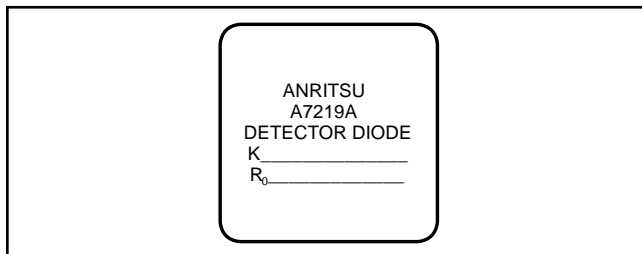

Figure 11. Replacement Diode Module Container Label
7. Obtain the "K" value from the replacement diode container label (Figure 11).